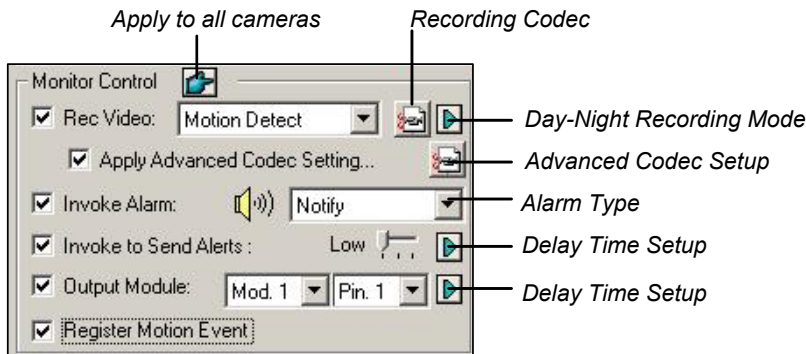

Figure 1-12 Monitor Control Setup
1. Click the **Day-Night Recording Mode** button in Figure 1-12, and this dialog box appears.
In Figure 1-12, check the **Apply Advanced Codec Setting** option, click the  button beside, and then click the **Advanced** tab. This window appears.